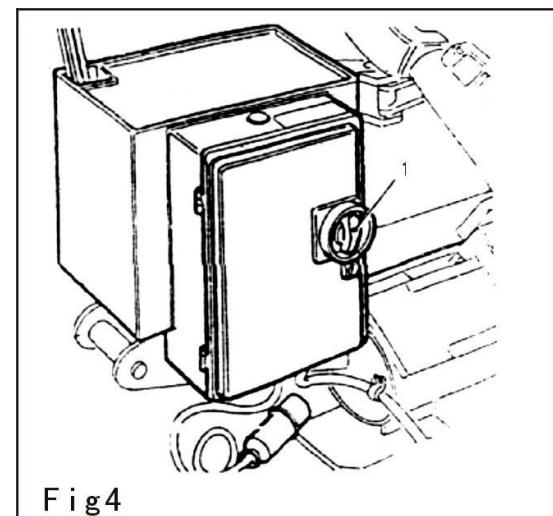

Fig 4
1. Main switch **Fig 4**
The main shaft motor and hydraulic pump more all have the overload protection device installed in the **Fig 4**.